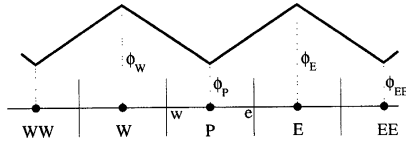

Fig. B.2. Example of spurious oscillations occurring in cell-based gradient approximation.
- 4) Calculate the derivative $\left(\frac{\partial \phi}{\partial x} \right)_e$ at face e using arithmetic interpolation. Show that this formula gives rise to checkerboard oscillations as shown in Fig. B.2 by calculating the derivative of $\phi_i = \text{Const.} + (-1)^i$. Compare with the formula obtained with the minimum correction approach.